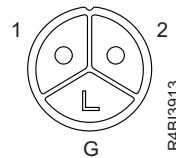

Figure 5. Receptacle Connector for Russellstoll 3913U-2 or 3743U-2
- Receptacle: Russellstoll 3743U-2 (Figure 5)
- Connector housing: Russellstoll 3913U-2 (Figure 5)